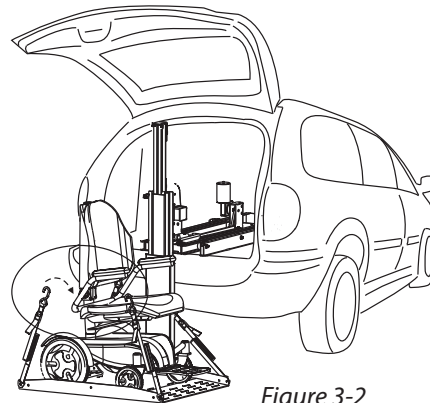

Figure 3-2
2. Secure the Chair. Each corner of the AL600 platform has a restraint attached, with a hook on the end. Place each hook in either the anchor plate slot or in each U-bolt. [Figure 3-2]